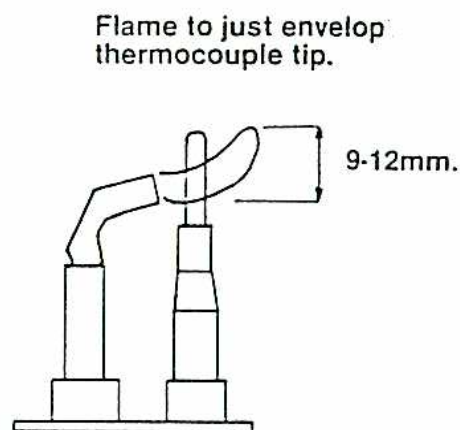

Fig. 2 Pilot flame adjustment
f) Adjust the pilot flame if necessary, (a low energy pilot is fitted, which requires the pilot adjustment screw to be screwed four full turns anti-clockwise from closed (see Figs.2 and 3)).
Disconnect the pilot tube from the pilot assembly. Remove the pilot injector by lightly tapping the side of the pilot assembly - the injector should drop out. Before reassembling, ensure that the electrode retaining clip is correctly located. Ensure that the gap between the spark electrode and burner tip is 3.0mm approx. After servicing, check for correct pilot flame length and adjust if necessary (see Fig.2 and Item 6.8f) in Section 6).